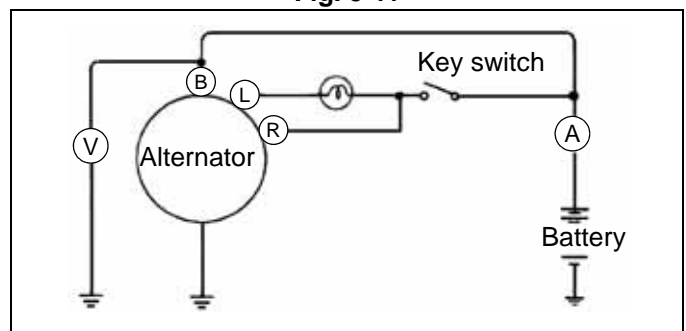

Fig. 5-12
1. In equipment without an ammeter, connect an ammeter (50A capacity) at the position shown in page 5-5, Fig. 5-12. In equipment with an ammeter, make use of the ammeter on the equipment.
Caution: If the test ammeter is connected at the position shown in page 5-5, Fig. 5-12, make sure that no starting current is applied to the ammeter when the engine is started.
1. Turn ignition switch to off position, disconnect the terminal B of the alternator and connect an ammeter (50A capacity) at the position shown in page 5-5, Fig. 5-12.